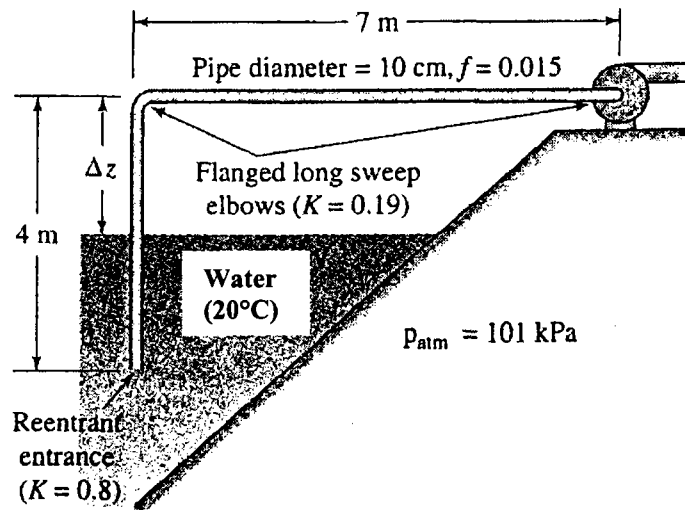

Figure Q5[b]
- [b] Water flows through the pump in the system shown in Figure Q5[b] at a rate of 60 L/s. The allowable net positive suction head at that flow is 3 m. Determine the maximum height Δz above the water surface that the pump can be located to operate without cavitation. Vapour pressure and density for water at 20°C is 2.34 kPa and 998 kg/m³ respectively. Comment on your results.